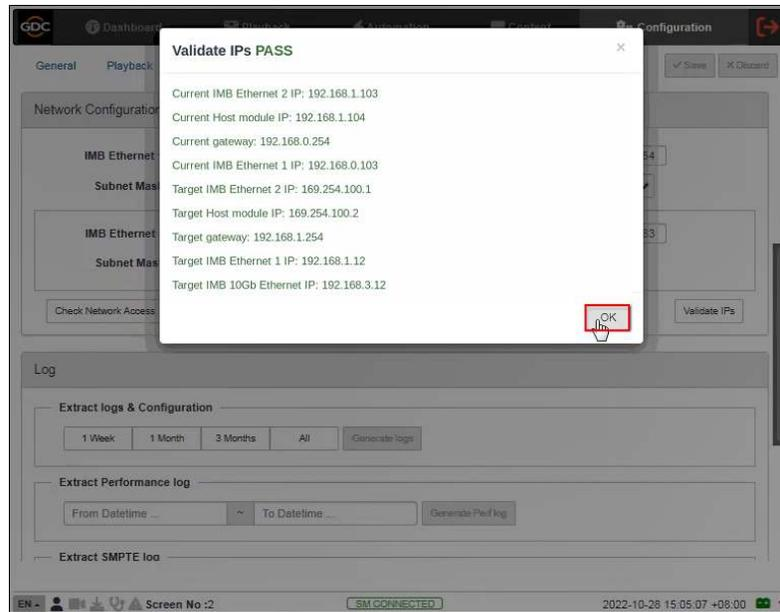

Figure 22: Validate IPs
7. If all IP addresses are valid, a popup window will appear as shown in **Figure 22**.